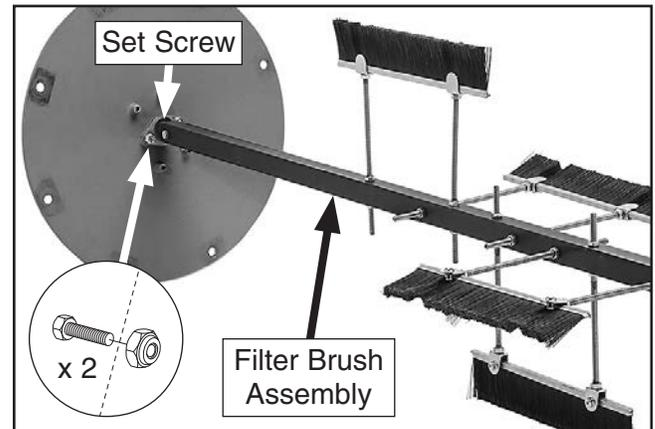

Figure 27. Filter brush assembly attached to filter cover plate.
27. Loosen set screw inside brush spindle connector, attach filter brush assembly to filter cover plate using pre-installed (2) $\frac{1}{4}$ "-20 x 1" hex bolts and (2) $\frac{1}{4}$ "-20 lock nuts (see **Figure 27**), then tighten set screw.